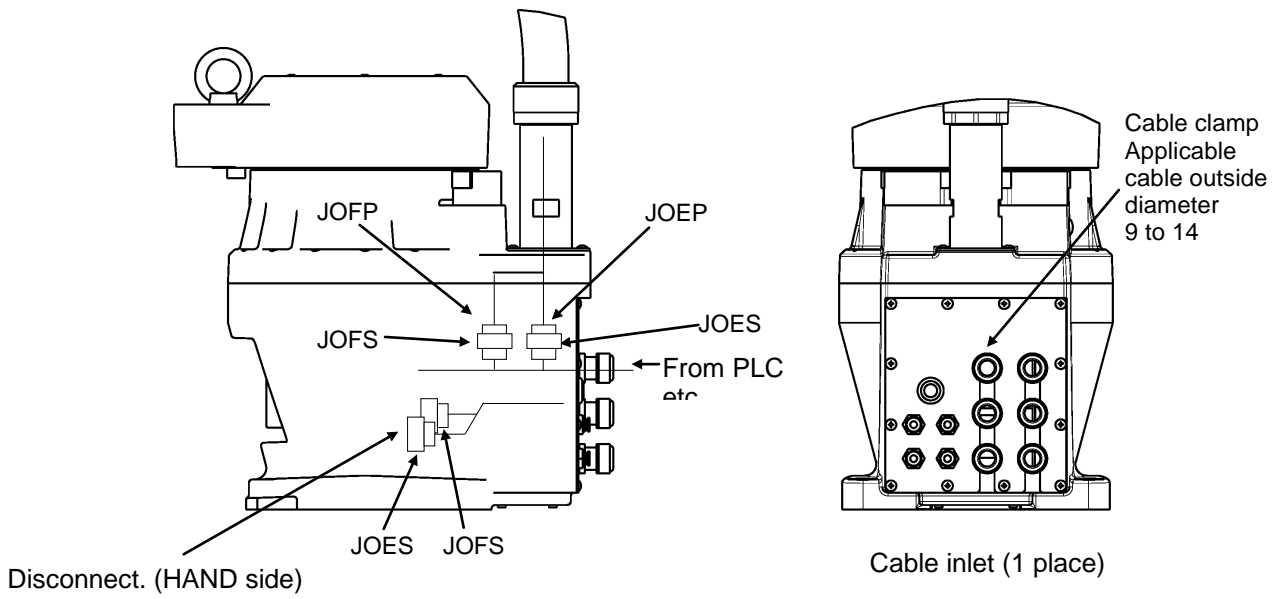

Fig. 5.2 Wiring to PLC, etc.
Eight (8) input signals are provided for sensors, etc. and eight (8) control signals for solenoid valves, etc. A supply power signal of 24 VDC is also provided. They are connected to the controller. The wiring arrangement for these cables is shown in Fig. 5.2. The wires are connected to the connectors on the upper side of the arm 2. The user should provide the following connectors to connect the cables.
When controlling the robot from the sequencer (i.e., programmable ladder controller: PLC), etc. installed separately, remove the motor cover from the base section, remove connectors **JOES** and **JOFS** on the rear side, then connect the cables running from the PLC, etc. through the cable inlets provided on the motor cover. (See Fig. 5.2.) For ahead of the **JOES** and **JOFS** connectors, the user should prepare the following plug connectors and connect the cables. The current is 1 A or less per cable.